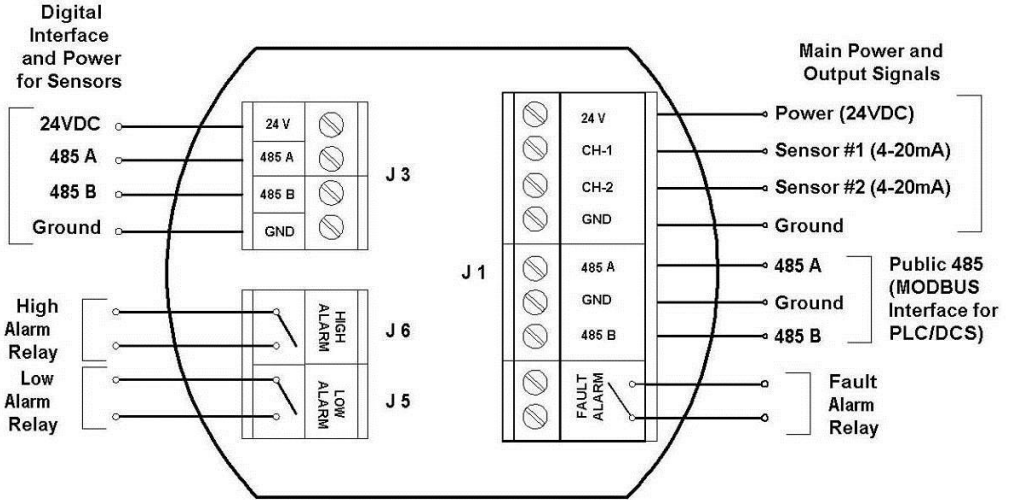
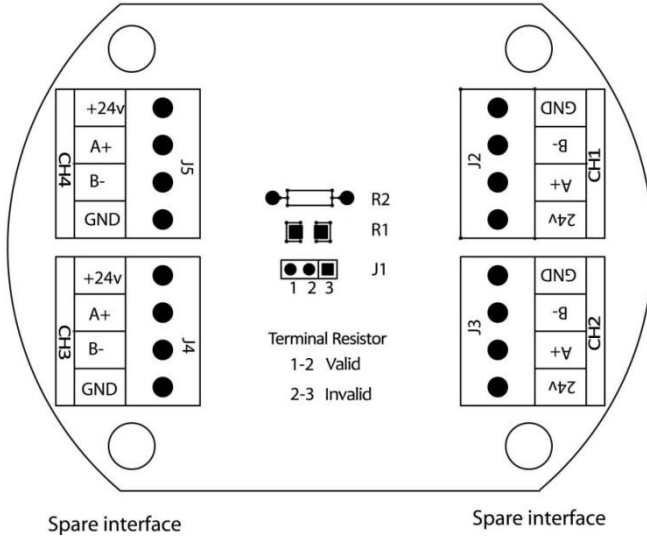
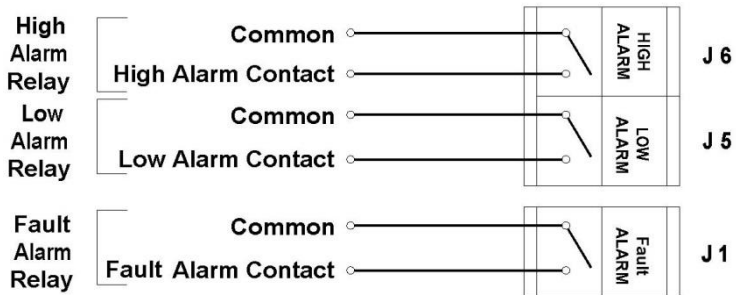

Figure 2-4 Electronics Module for **ITRANS-2** (Main Unit)
Figure 2-5 Electronics Board for **TRANS-2** Remote Sensor
Figure 4-1 Alarm Relay Connectors J6, J5 and J1
The electronics module of the **ITRANS-2** gas monitor contains connectors and jumpers for wiring and configuring the device. The electronics module for a main **ITRANS-2** unit is shown in Figure 2-4. The electronics module for a remote unit is shown in Figure 2-5. Wiring details are explained in Chapter 4 | System Wiring.
To connect the **TRANS-2** control wires to the three relay terminals on the relay board, wire the unit to the connectors shown in Figure 2-4. The low alarm relay is activated when the low alarm threshold is met. This is a non-latching, Normally Open (NO) contact. The high alarm relay is activated when the high alarm threshold is met. This is a non-latching, Normally Open (NO) contact. The fault alarm relay is activated upon power-up of the **TRANS-2**. When the fault condition is met, the circuit opens. This is an Electronically closed (NC) contact. See Figure 4-1 for relay wiring.